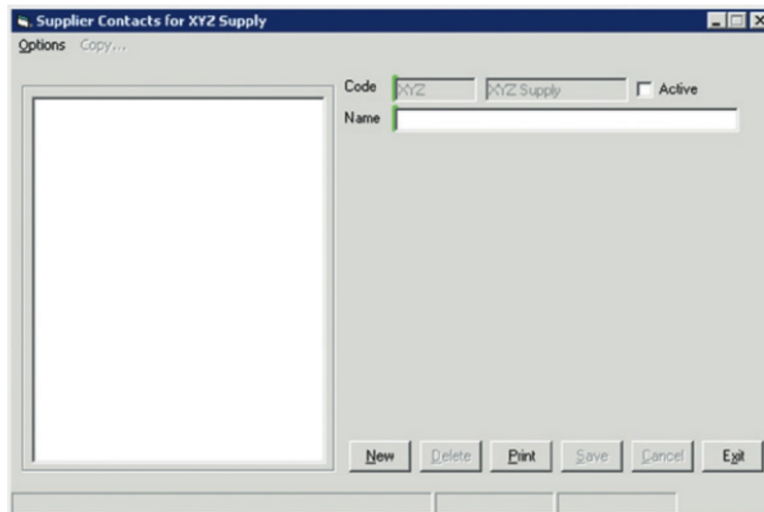

Figure 13. Suppliers Contacts dialog.
4. Click **New** on the *Suppliers Contacts* dialog (see Figure 13). This makes the contact information tabs visible.